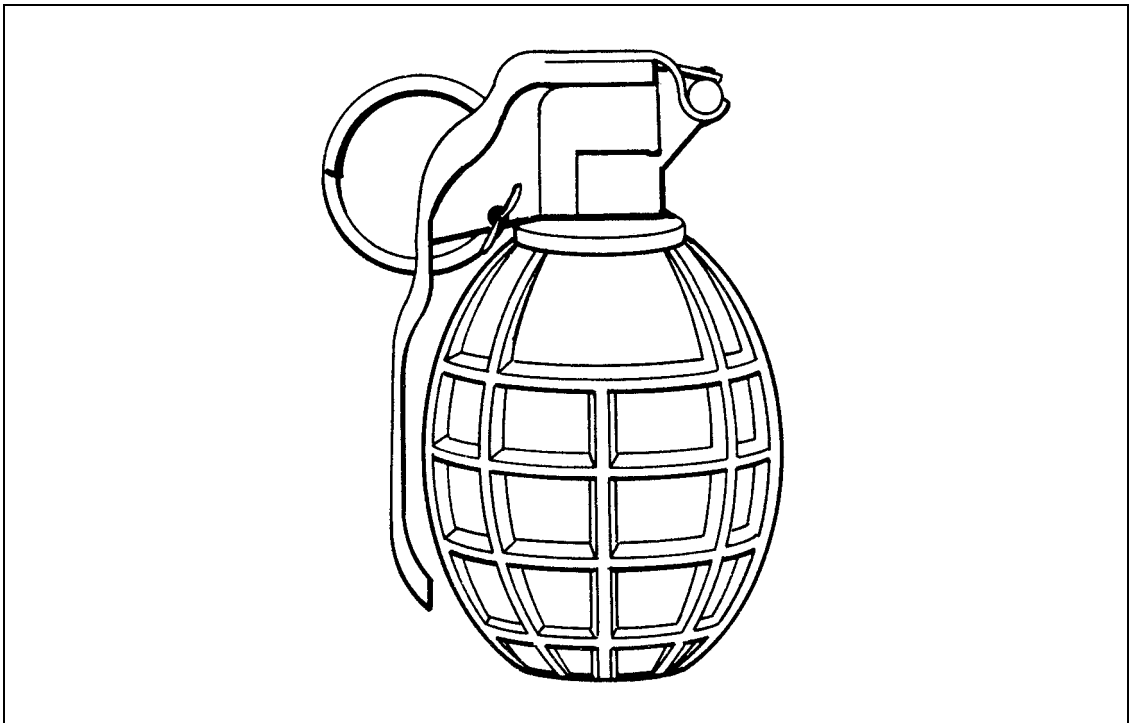

**Figure F-22. HdGr 72 hand grenade.**
- Type: Defensive. (Figure F-22)